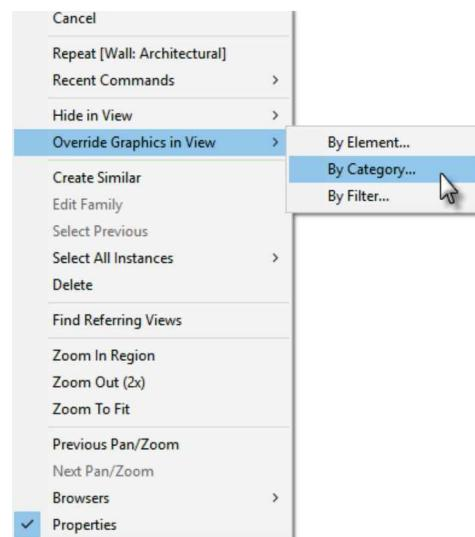

FIGURE 14-1.2 Graphics override by view
8. Right-click and select **Override Graphics in View → By Category** (Figure 14-1.2).